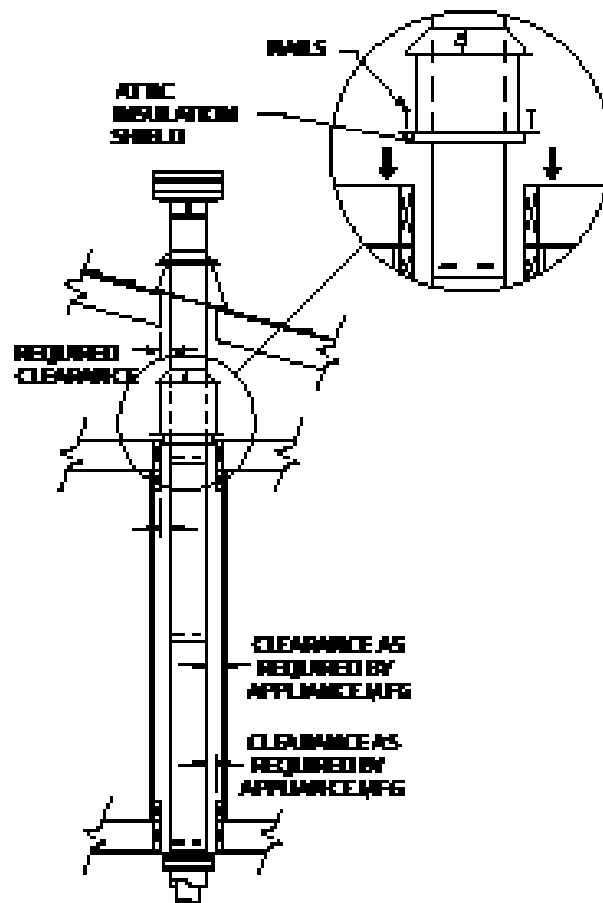

Figure 13
(3) If venting system passes through an attic space the Attic Insulation Shield or a chase enclosure must be installed to prevent contact between Pipe Sections and the insulation or other debris. For the Attic Insulation Shield, nail the base to floor of attic and adjust shield for appropriate insulation level, then attach the collar at the top of assembly (Fig. 13). For a chase enclosure, it may be constructed out of sheetrock or similar building materials and framed around the support box or the pipe, maintaining the clearance to combustibles as required by the appliance manufacturer. For vaulted ceilings a chase enclosure must be constructed as the Attic Insulation Shield can not be installed.